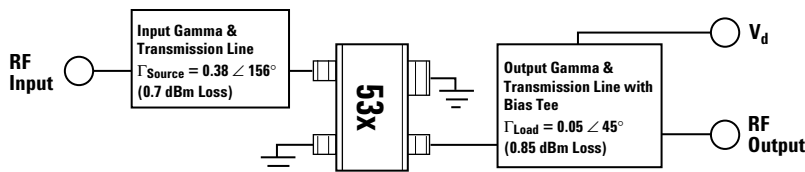

Figure 1. Block Diagram of 1.9 GHz Test Fixture.
1. Measurements obtained from a test circuit described in Figure 1. Input and output tuners tuned for maximum OIP3 while keeping VSWR better than 2:1. Data corrected for board losses.